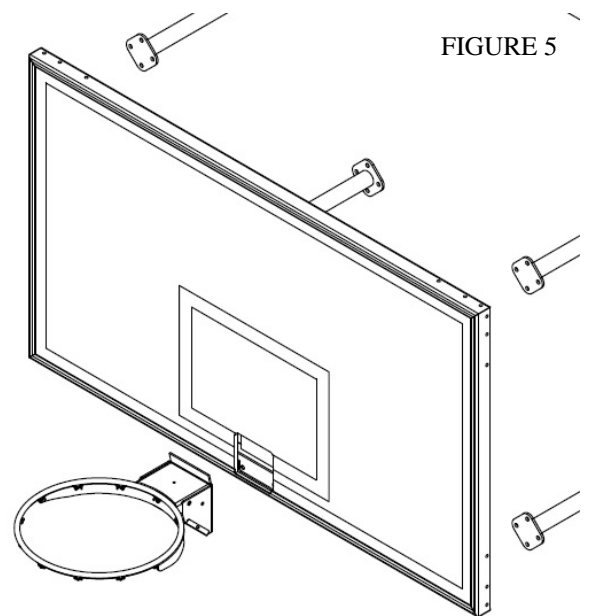

FIGURE 5
12. Mount the backboard to the structure. If you are installing a rectangular glass backboard, the attachment hardware is packed with the backboard, for all other backboards, the attachment hardware will be packed with the backstop frame hardware. Be sure to level the backboard. See Figure 5.